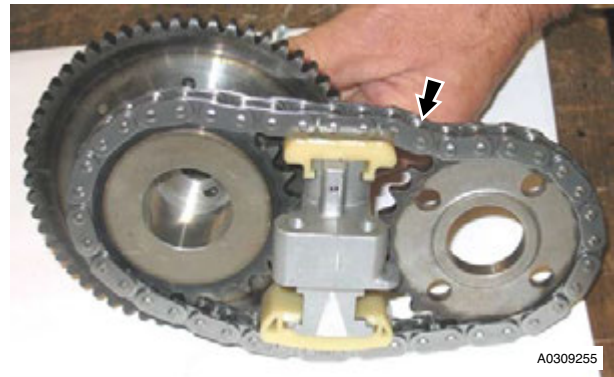

Figure 4
5. Remove intake sprocket housing assembly from secondary timing chain (refer to Figure 4).